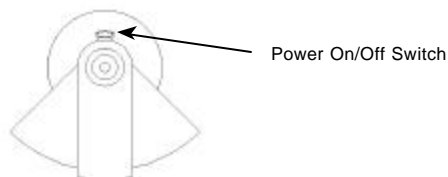

Figure 3: Camera Bezel (base)
Step 3: Turn on the power switch located on the back of the camera bezel (base). The green power indicator in the camera head will illuminate verifying that the FlexCam iCam is receiving power and ready for operation. See Figure 3.